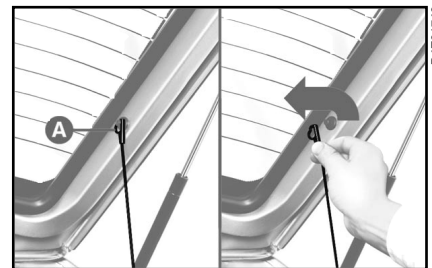

fig. 61
1) Free the upper extremities **A**-fig. 61 of the two tie rods, withdrawing the eyelets from the pins.